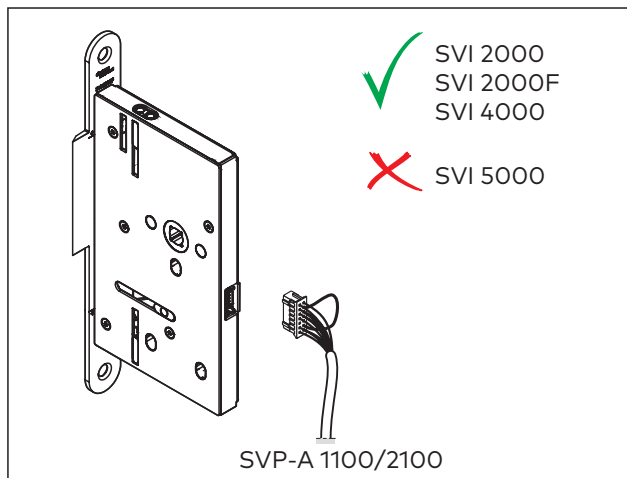

Fig. 38 Connect cable
5. Pull in the connecting cable SVP-A 1100/2100 and connect it to the lock (Fig. 38).